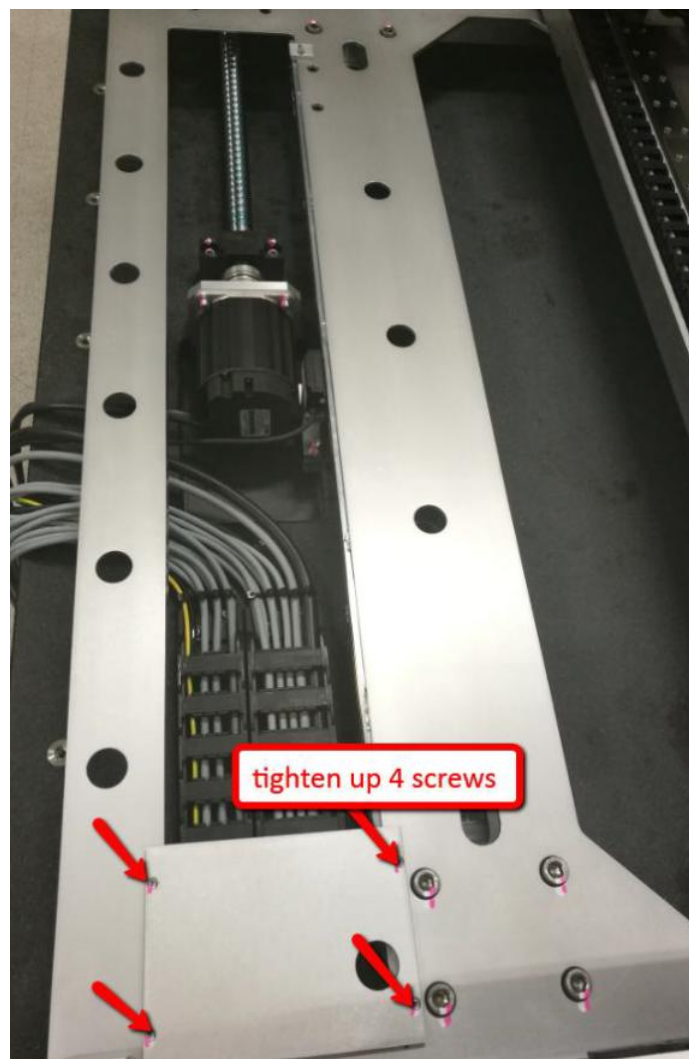

Figure 10 Cover plate assembly
5. Assemble Y-Axis cover plate and encoder cover plate as shown in Figure 10.